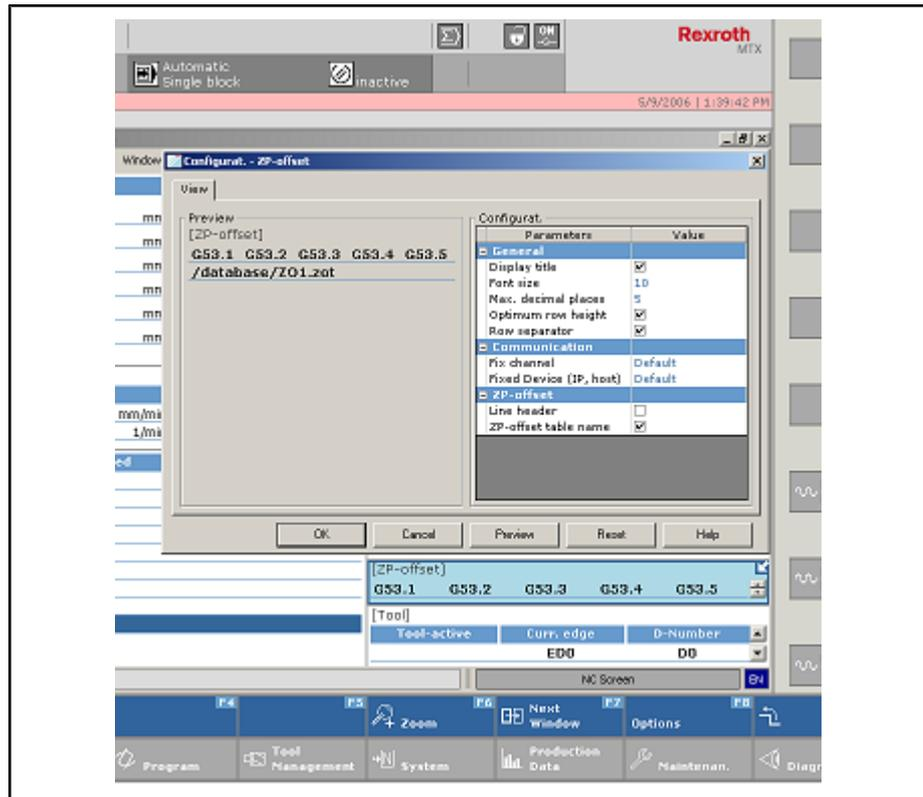

Fig. 7-58: Dialog: Configuration NPV
2. Select the ZO display by clicking with the mouse or by pressing <F7> (several times, if applicable) (Next window) (fig. 7-58 "Dialog: Configuration NPV" on page 178).
- Select the font size for the displayed ZOs by double-clicking the currently set value (the value 10 in the example in fig. 7-58 "Dialog: Configuration NPV" on page 178).